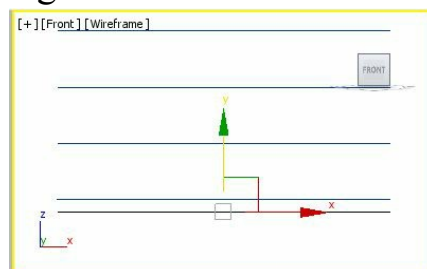

Figure 10-87 The *Circle001* spline moved vertically
9. Select *Circle001* that is placed at the bottom in the viewport and right-click on the **Select and Move** tool; the **Move Transform Type-In** dialog box is displayed. In the **Offset:Screen** area, set the value 13 in the Y spinner and press the ENTER key; *Circle001* moves in the vertical direction, as shown in Figure 10-87.